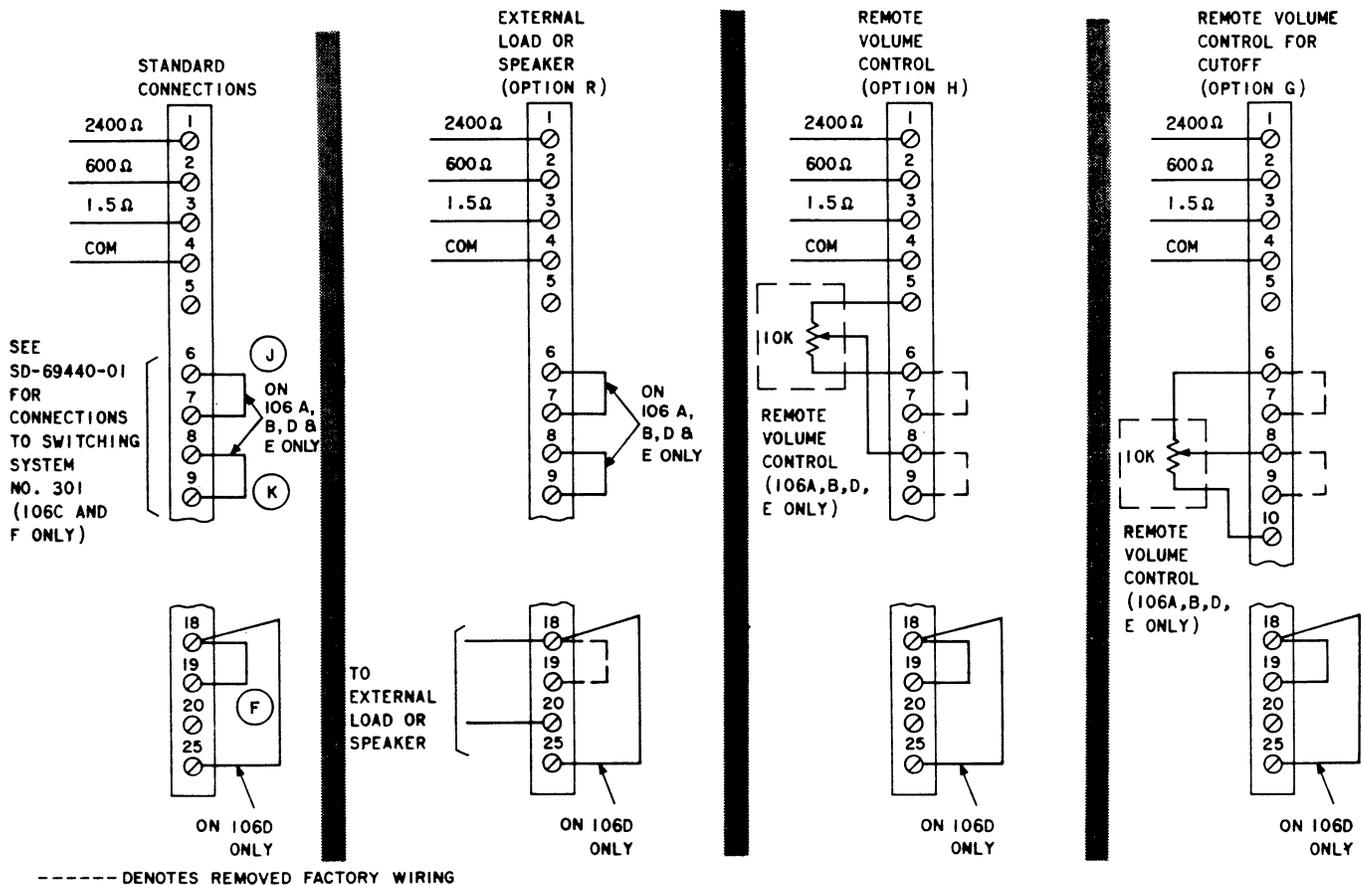

Fig. 8—Connections for 106-Type Loudspeaker Set—Feature Options
3.05 Connect leads as shown in Fig. 8.
- (c) **External Speaker (Option R, Internal Speaker Disabled)—All 106-Type Sets:** All sets are factory-wired with the internal speaker connected for operation (option F). If an external speaker is to be used, the internal speaker must be disabled. Remove strap between terminals 18 and 19. Connect external speaker to terminals 18 and 20 (Fig. 8).
- (f) **Remote Volume Control (Option H, Front Volume Control Disabled)—106A and B (MD) D and E:** To use a remote volume control, remove straps from between terminals 6 and 7, and 8 and 9. Connect the lead from the movable contact of the remote volume control to terminal 8. Connect the other two leads to terminals 5 and 6 for desired direction of rotation (Fig. 8).